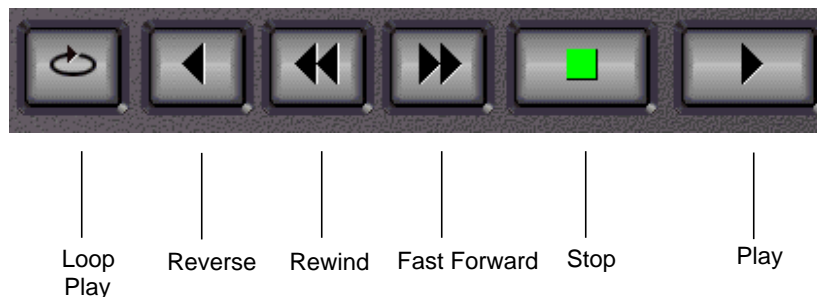

Figure 118. Transport controls
5. When you are done recording, click on the **Stop** button. (See Figure 118)